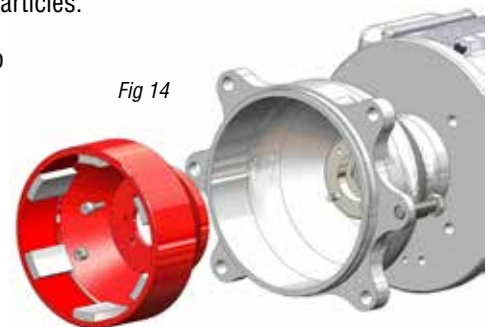

Fig 14
- Using a 13 mm socket, remove the (2) M8 hex head cap screws (item 23) and two M8 hex nuts (item 21) that hold the outer magnet ring to the shaft adapter. If necessary, use the two M8 hex bolts as jack screws in the tapped holes of the magnet ring. See figure 14.